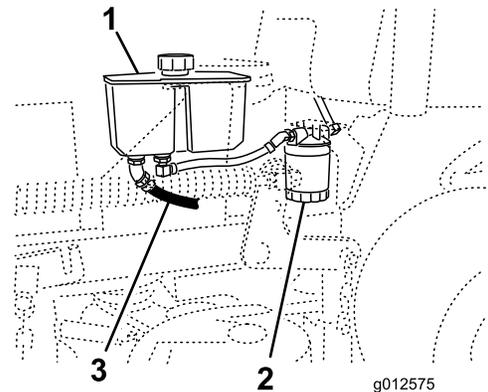

Figure 69
- Locate the front hydraulic hose under the hydraulic tank and place a drain pan under the tank (Figure 69).